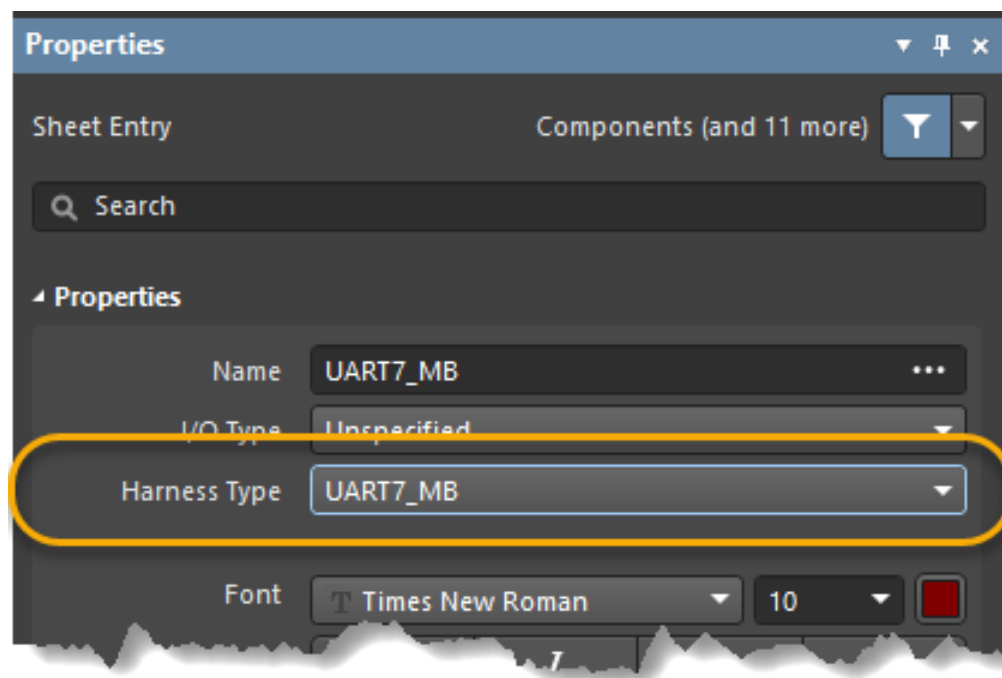

Figure 23. Sheet Entry Harness Type
52. From the *Properties* panel, select UART7\_MB from the *Harness Type* drop-down as shown in Figure 23.